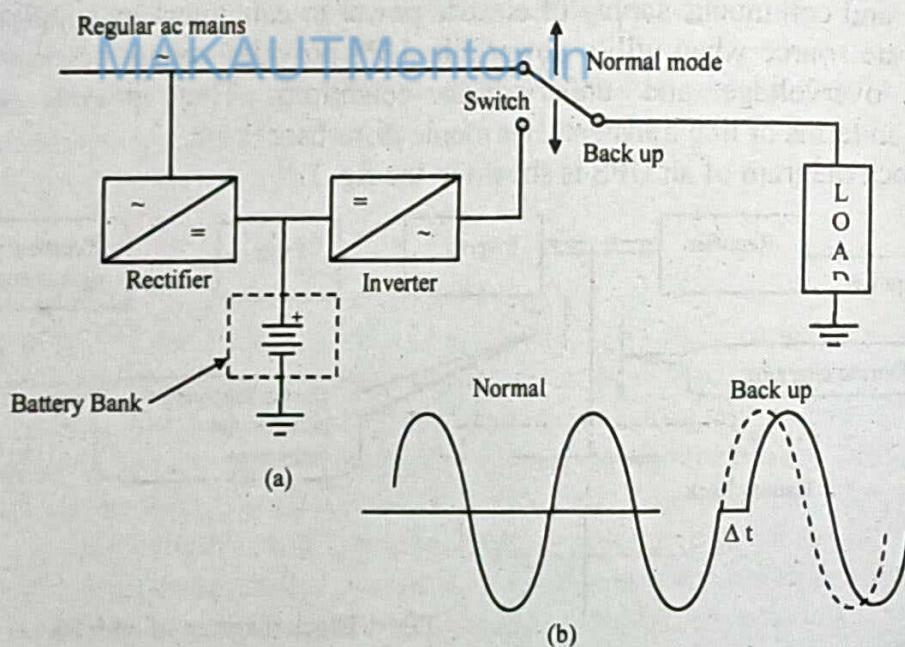

Fig: 2 Stand-by or offline UPS
- The internal batteries deliver DC power but the power supply of the load should be 220V AC. The internal power inverter of the standby uninterruptible power supply will convert the DC power into AC power before using it to power the load. The transition from using the power from the utility company to using the power from the internal batteries will occur in less than few milliseconds, thus keeping the load power uninterrupted. The scheme of the standby or off-line UPS is shown in the fig. 2(a). The pattern of the supply wave to the electrical load is shown in the fig. 2(b) when the switching from the utility power to the battery bank takes place.